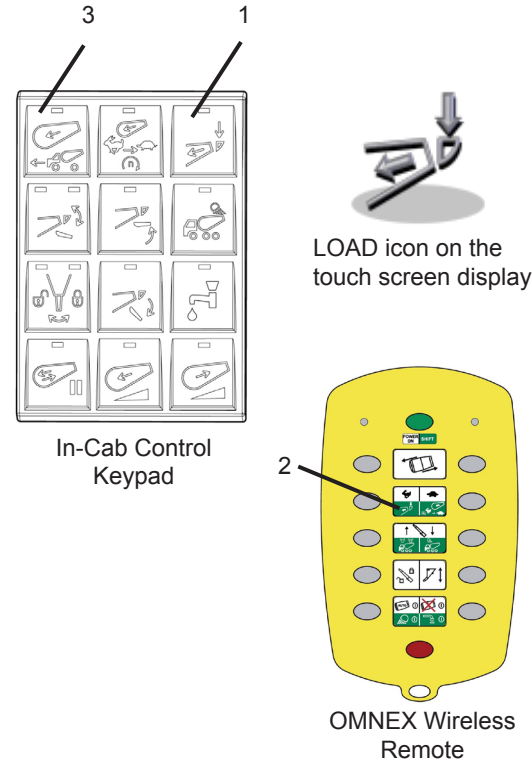

Figure 15
The LOAD function is enabled using the in-cab control keypad or the OMNEX wireless remote. The LOAD function allows for one-touch operation of the loading function. When pressed, the engine RPM will go to the full preset and the drum speed will accelerate to 18 RPM. The button indicator will illuminate and the drum control screen will show the LOAD icon on the touch screen display (Figure 15).
3. To enable LOAD function, press the LOAD button on the in-cab control keypad (Figure 15, Item 1), or while holding the green shift key, press the OMNEX wireless remote button (Figure 15, Item 2).
5. When loading is complete, press the LOAD button again. The system will default to Constant Speed mode preset (the Constant Speed indicator will illuminate) (Figure 15, Item 3).